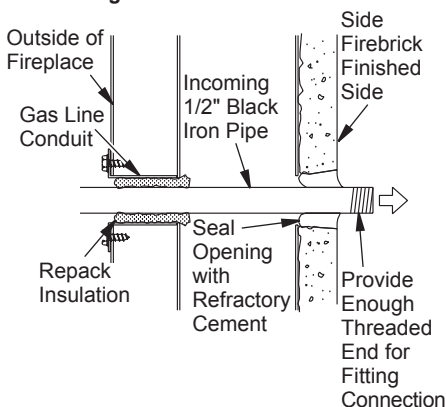

Figure 24 - Gas Line Installation
3. Run a 1/2" black iron gas line into fireplace through the rear at gas line conduit sleeve (if using a raised platform, add height). Provide sufficient gas line into fireplace chamber for fitting connection (see Figure 24).